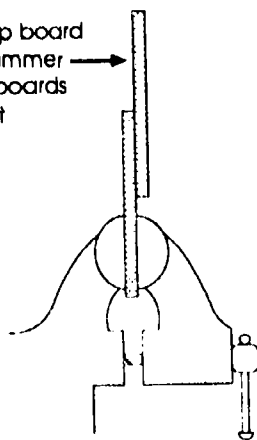

Figure 8. Test 2: place the boards in a vise as shown here.
- a. Place a fastened pair of boards upright in a vise. Place only one board against the vise jaws (see Figure 8).